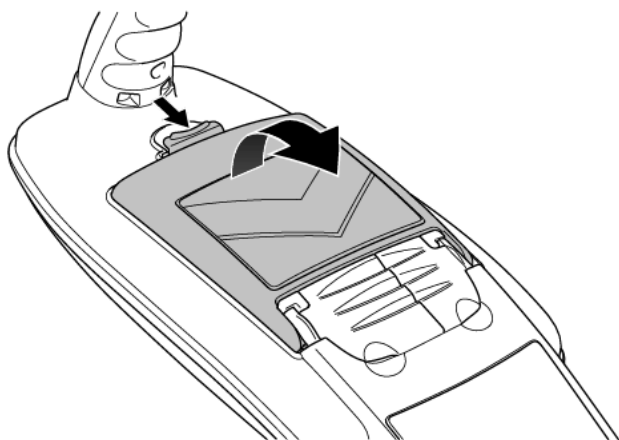

Figure 4.1 Open the battery compartment
- 1 Open the battery compartment using the release catch (figure 4.1)